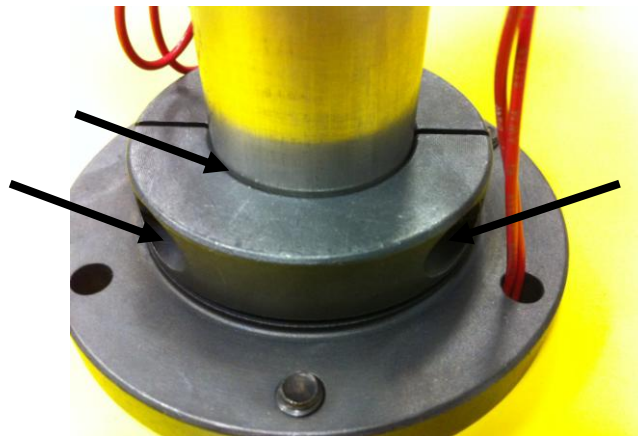

Figure 7 – Close-up of collar on disk
- a. Loosen the two bolts in the collar that tighten it to the shaft, as shown in Figure 7.
It is equally important to ensure that there is no debris in the joint between the collar and the shaft prior to removing the disk, as shown in Figure 7. Even a small piece of metal or sand can become wedged between the two and permanently stop the disk from sliding.